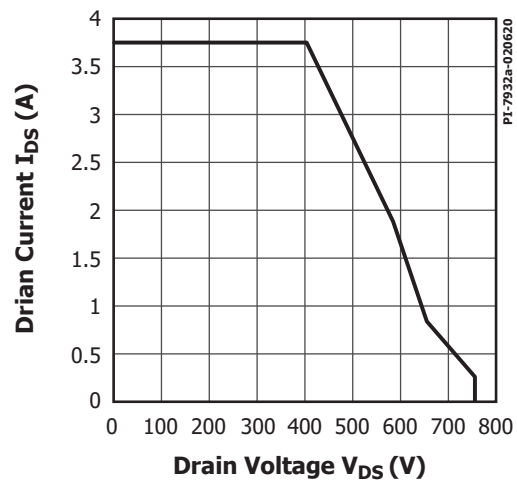

Figure 14. Maximum Allowable Drain Current vs. Drain Voltage.
2. See Figure 14, for  $V_{DS} > 400\text{ V}$ .